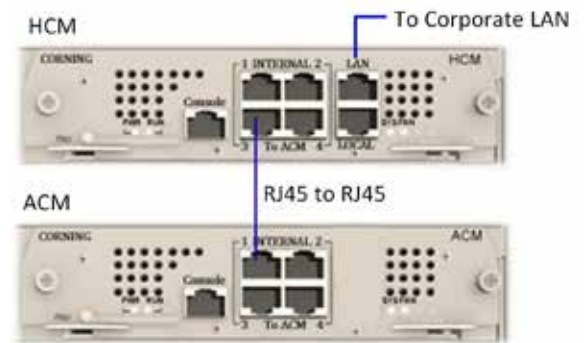

Figure 12. HCM-to-ACM Connection
For HCM only — using the provided RJ45/RJ45 communication cable, connect the HCM LAN port to the corporate LAN (Figure 12).
- Referring to Figure 12 — for configurations with one HCM and up to four ACM modules (e.g., one HEU and four OIUs), directly connect as follows: